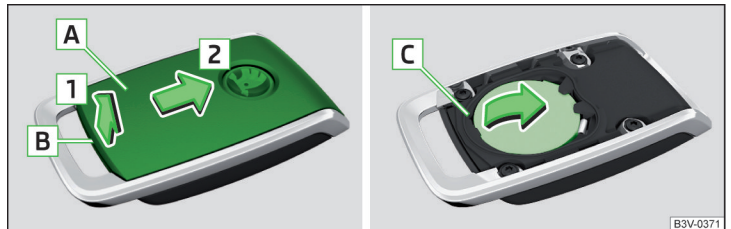

Fig. 331 Open the cover/remove the battery
- › Use a thin screwdriver to remove the cover **A** in the area **B** » Fig. 331.